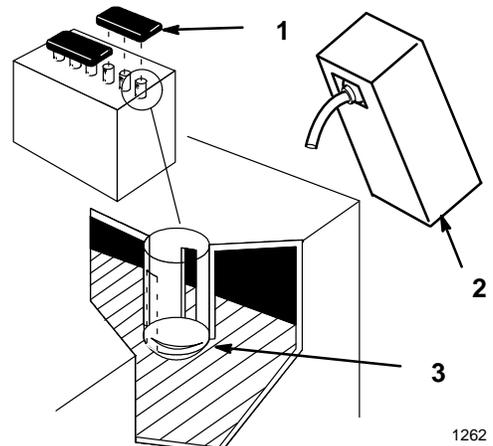

Figure 5
2. Remove filler caps from the battery. Slowly pour electrolyte into each cell until the electrolyte level is up to the lower part of the tube (Fig. 5).
5. Slowly pour electrolyte into each cell until the level is once again up to the “UPPER” line on the battery case (Fig. 5) and install covers.
6. Install the battery in the tractor and connect cables with (2) 1/4 x 3/4” bolts and (2) 1/4” plastic wing nuts: refer to the Operator’s Manual, Installing the Battery.